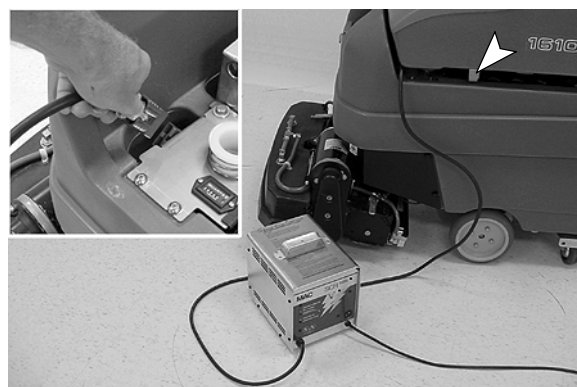

FIG. 25
5. Connect the charger's DC cord to the machine's battery receptacle located under the recovery tank (Figure 25). Rest the recovery tank on the support stand to promote ventilation during charging.